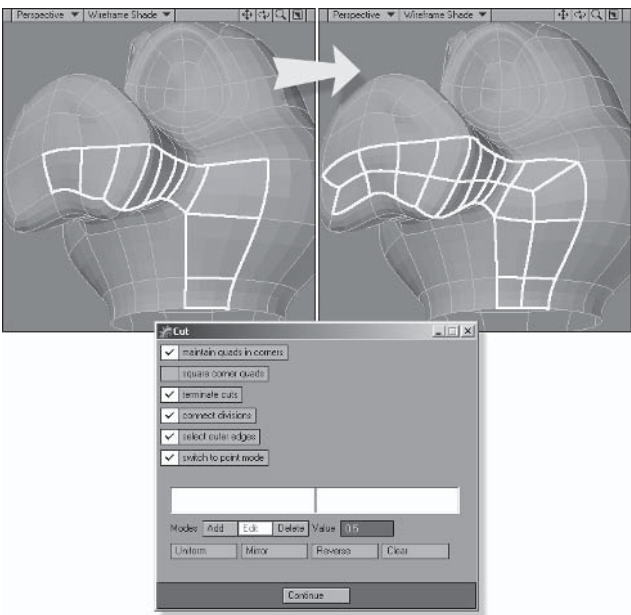

Figure 5.3-21. Turning off square corner quads relaxes the corner of the cut.
13. Now select the polygons shown in Figure 5.3-21 and **Cut**. Uncheck **square corner quads** and click **Continue**. These last two cuts have the